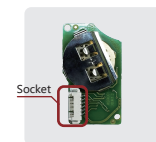

Fig. 1
- TK-wire TK type remote:** There is a socket on the circuit board. (Fig. 1) Need to remove the battery to generate remote